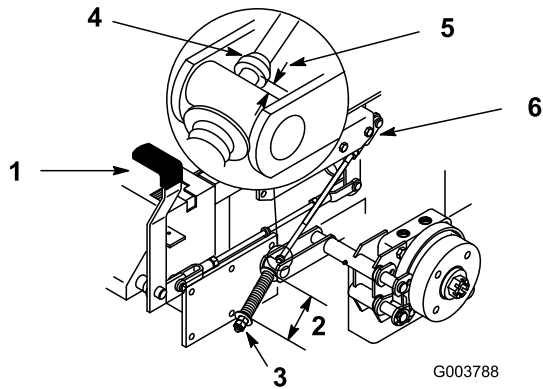

Figure 47
The measurement should be 2-3/4 inch (70 mm) between washers (Figure 47).
3. If adjustment is necessary, loosen the jam nut below the spring and tighten the nut directly below the yoke (Figure 47). Turn the nut until the correct measurement is obtained. Tighten the two nuts together and repeat on opposite side of unit.
The measurement should be 3/16-1/4 inch (5-7 mm) (Figure 47).
7. If adjustment is necessary, loosen the jam nut directly below the yoke. Turn the bottom rod until the correct measurement is obtained (Figure 47). Tighten jam nut at yoke